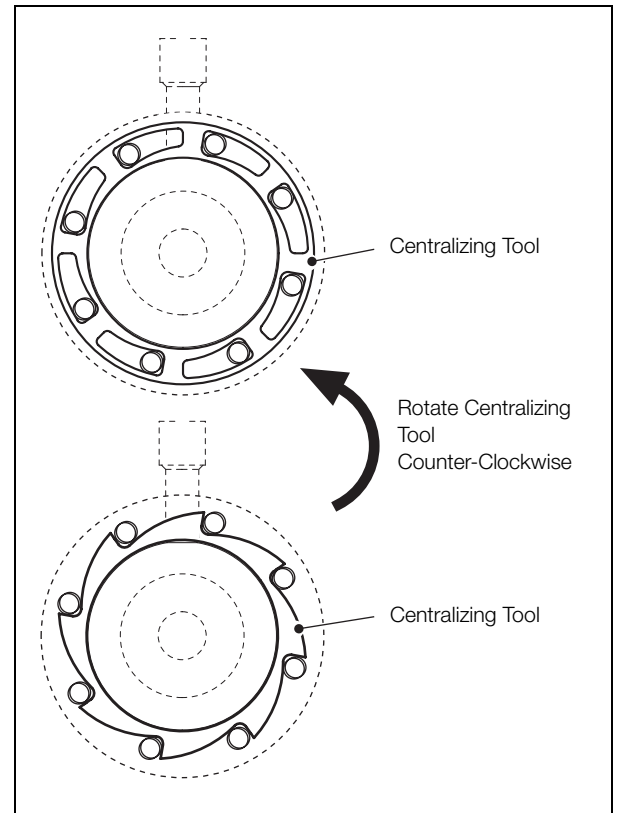

Fig. 2.6 Centralizing Tool
Note. One of two types of centralizing tool is supplied with the meter – see Fig. 2.6.
10. Referring to Fig. 2.6, rotate the centralizing tool to push the bolts against the outer edge of the bolt holes.